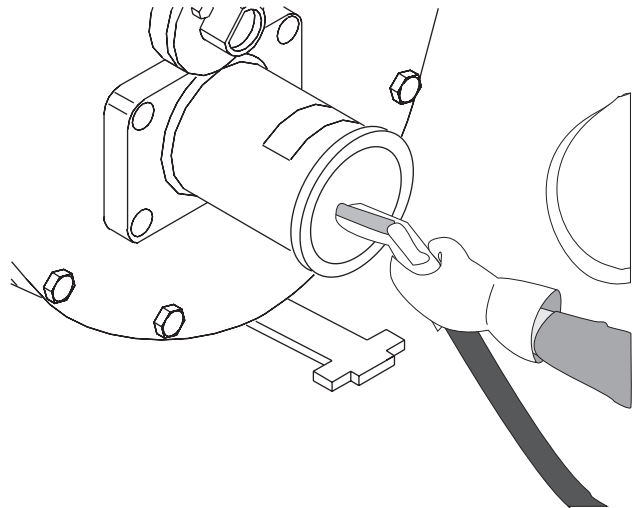

Figure 23
- Spray water into the opening, washing the end of the rubber ram, the material cylinder, the rock valve, and the outlet pipe (Figure 23). Continue washing until the water that leaves the valve is clear and clean. Visually inspect that no rocks, sand, or clumps of concrete remain. If there is still material, continue spraying water.